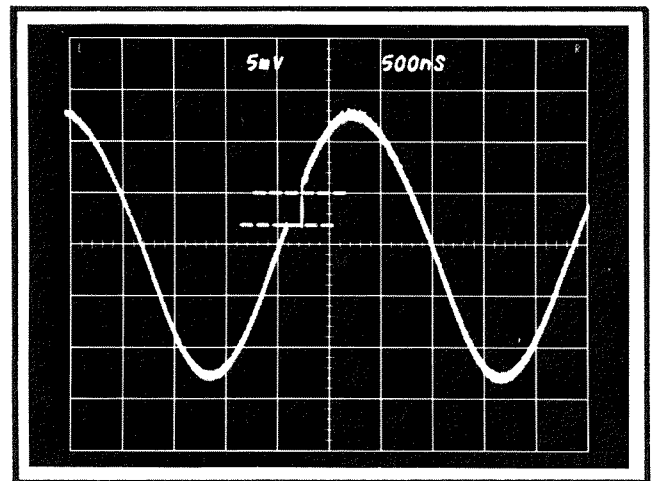

Fig. 5-14. Typical display of strobe kickback.
- g. Check the vertical amplitude of the largest discontinuity for a maximum of 2 major divisions (10 mV or less), of strobe kickback. See Fig. 5-14.